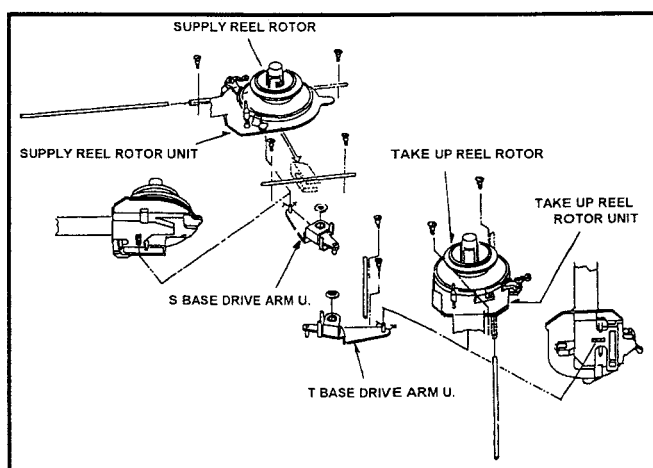

Fig. 6-3-3 Install of S & T Reel Rotor Unit
2. Hang on the Reel Rotor Unit to Reel Inner Rail and Install the Reel Rotor Unit then the pin of Drive Arm Unit should be matched with groove position of Reel Base as shown in Figure 6-3-3.
3. Install the 4 screws (C), (D) and (E).
8. Adjust the Motor Torque Offset value (Refer to item 1-1 of section 3).
9. Confirm that the Tension value on playback mode (Refer to item 5-16).